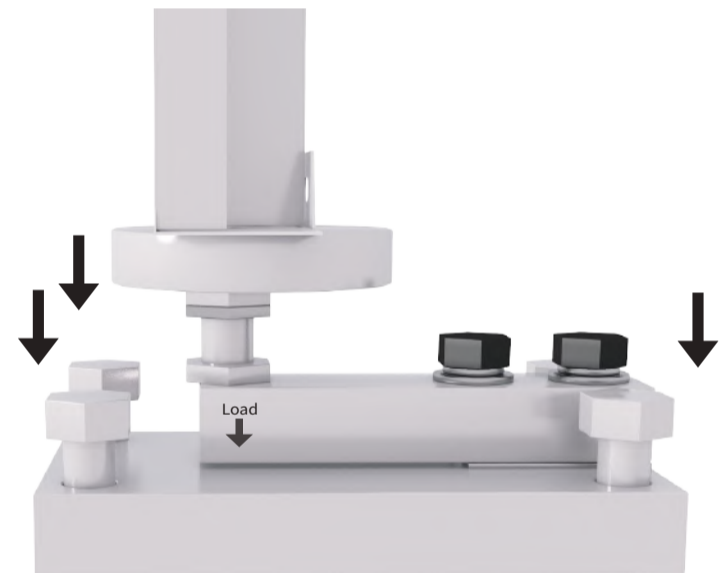

Figure 3 ▲
- 2** After installing all load cells, lower the material tower and secure it to the ground using 12mm expansion screws, as depicted in Figure 3.